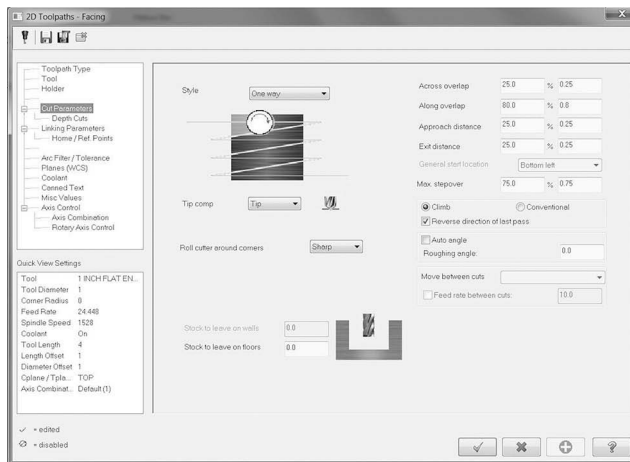

Figure 5-44 Facing—Cut Parameters
- From the 2D Toolpaths—Facing dialog tree, select the 1.0 diameter flat end mill from the tool list. Set the remaining dialog parameters, as shown in Figures 5-44 and 5-45.